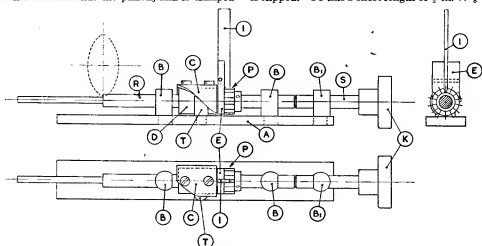

Fig. 2. Jig for cutting spiral pinions
This again requires a simple jig, the base of which consists of a length of $\frac{1}{4}$ -in. \times $\frac{1}{16}$ -in. B.D.M.S. (A), Fig. 2. Through this base two standards BB are riveted. These consist of short lengths of $\frac{1}{8}$ -in. diameter steel rod with one end reduced to $\frac{1}{4}$ in. diameter, and the spigot thus formed passed through a hole in the base and riveted over. These two standards have a $\frac{1}{4}$ -in. horizontal hole drilled through them at a height of $\frac{1}{8}$ in. from the base. To facilitate the drilling of these holes, one side of each standard was filed flat. A third standard, B₁, is fitted in a similar way, but has a $\frac{1}{4}$ -in. tapped hole instead of a plain hole through it. Through this tapped hole a length of $\frac{1}{4}$ -in. Whit. screwed rod, S, with a head, K, is screwed. This screw is used to feed the pinion against the cutter. The steel rod, R, to be formed into the pinion, is fitted through the standards, BB, and butts against the screw S.